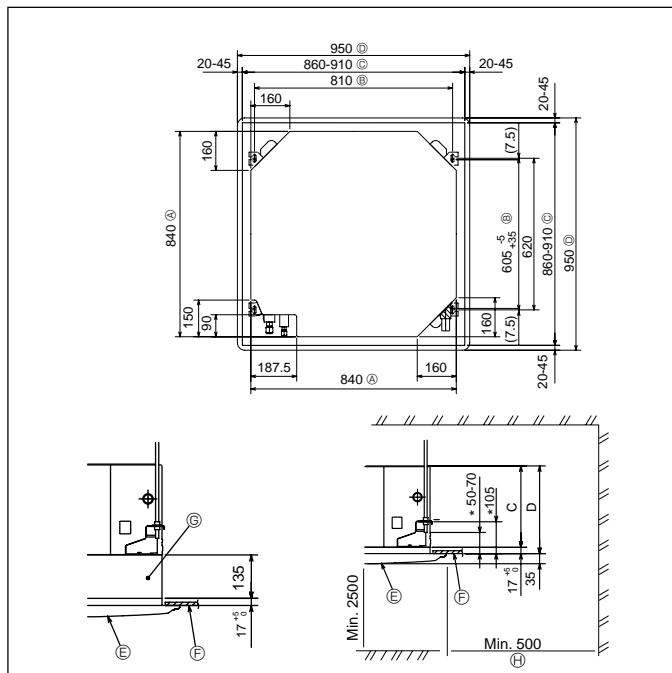

Fig. 2-2
2.2. Ceiling openings and suspension bolt installation locations (Fig. 2-2)
- The dimensions of ceiling opening can be regulated within the range shown in Fig.2-2; so center the main unit against the opening of ceiling, ensuring that the respective opposite sides on all sides of the clearance between them becomes identical.